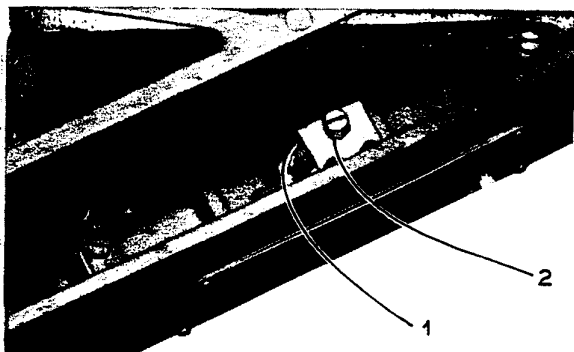

Figure 14
Slightly loosen screw 1 (Figure 14) on shift block. If indication is *less* when load is placed on (A) than when load is placed at (B), turn shift adjusting screw 2 clockwise. If indication is *more* when load is placed at (A) than when placed at (B), turn shift adjusting screw 2 counterclockwise. Tighten screw 1 after completing adjustment.